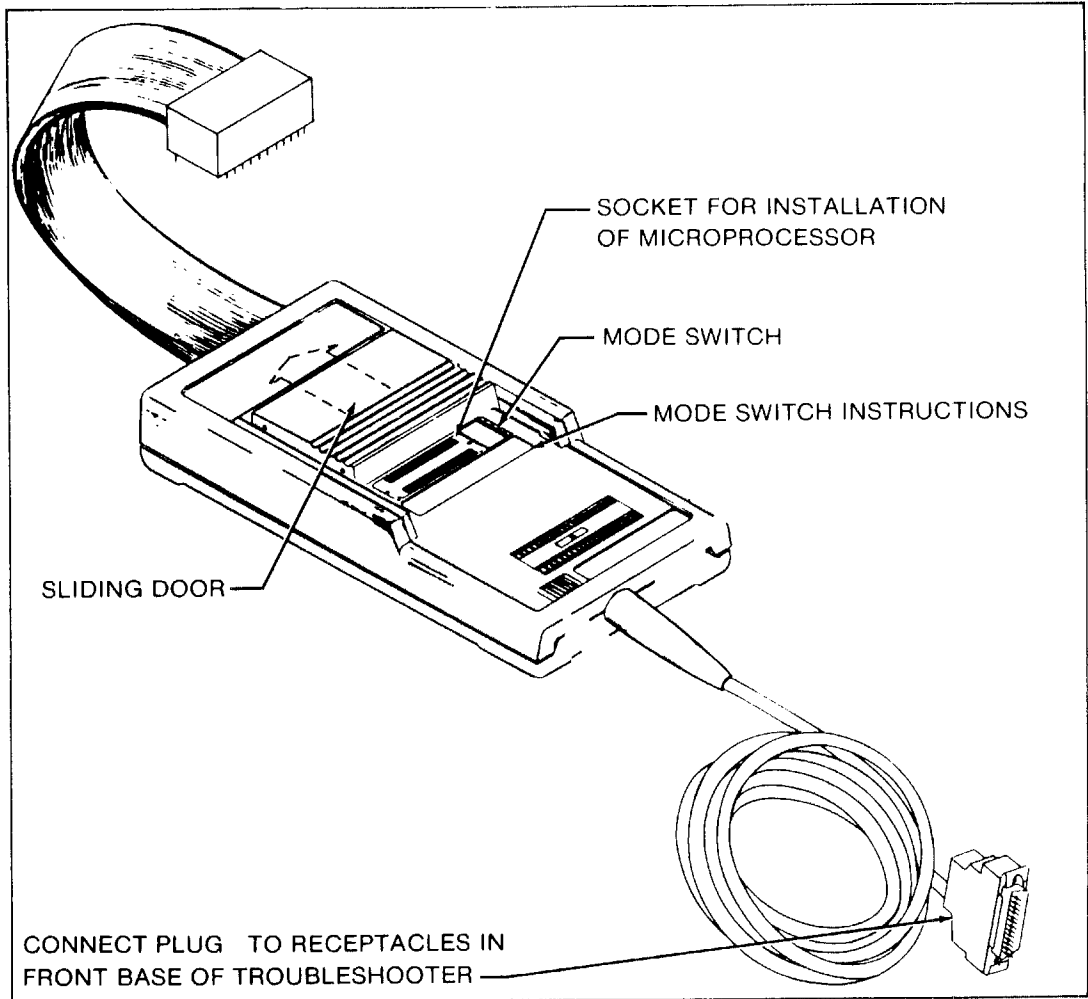

Figure 2-1. Location of Microprocessor Socket and Mode Switches
3. Open the sliding door on the top of the Pod (shown in Figure 2-1) to expose the Pod microprocessor socket. Open the socket contacts by using a screwdriver to turn the screw at the end of the socket. Turn the screw counterclockwise to open the socket.
2. Using the round shielded cable, connect the Pod to the Troubleshooter at the location shown in Figure 2-1. Secure the connector using the sliding collar.